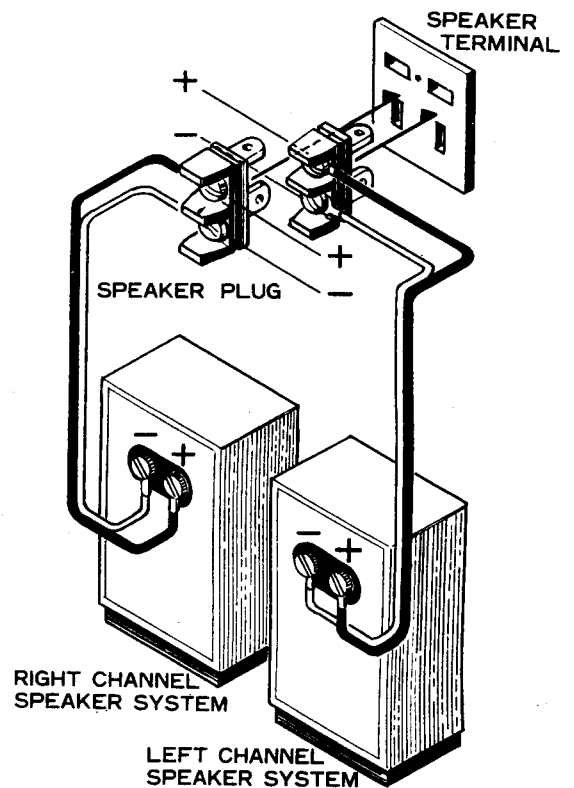

Fig. 3
- To connect a speaker, take a furnished speaker connector plug and connect it to the leads of the speaker as in Fig. 3. Be sure the polarity is correct.